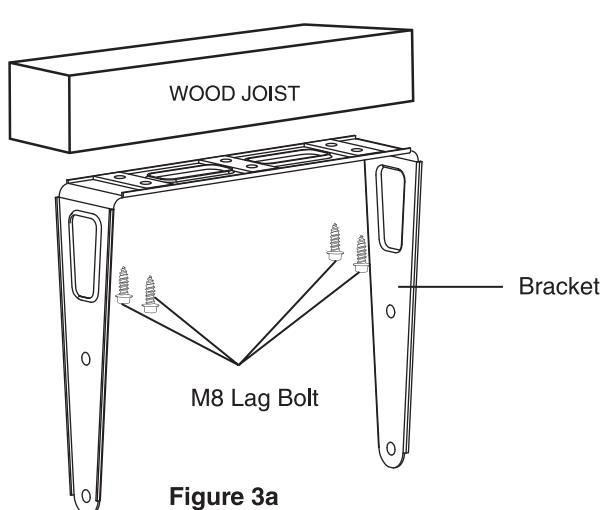

Figure 3a
A. Mount the bracket with the **wood joist**. Refer to **Figures 3a**.
2. Place the **M8 Lag Bolt(s)** as shown in the **Figures 3a**.